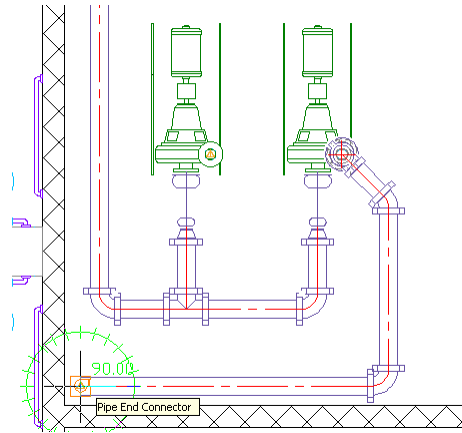

Figure 6.45
18. Move the mouse down and to the right away from the pump at 45 degrees (towards the Suction Pipe) approximately 24" in length (by the elbow on the suction pipe), where the elbow is shown in Figure 6.45.
19. Pick the next point straight down by the lower wall, and then another in the lower left corner of the room (see Figure 6.45).